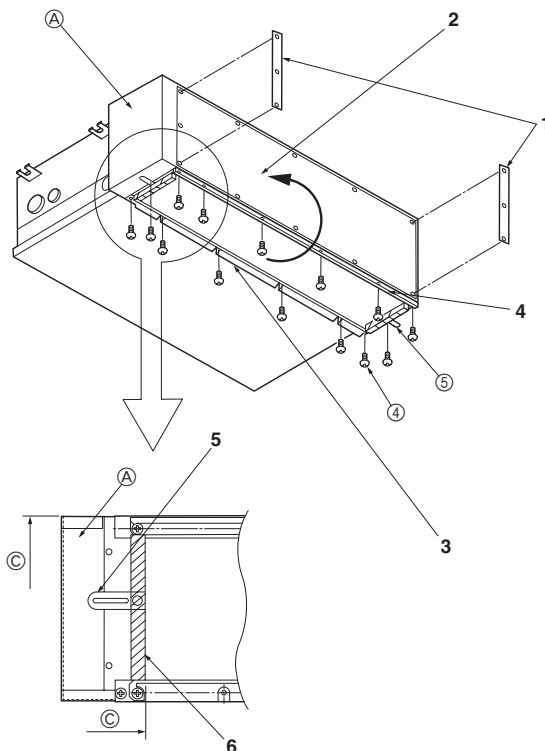

Fig. 9-3
9.3. Filter rail installation (Bottom air intake) (Fig. 9-3)